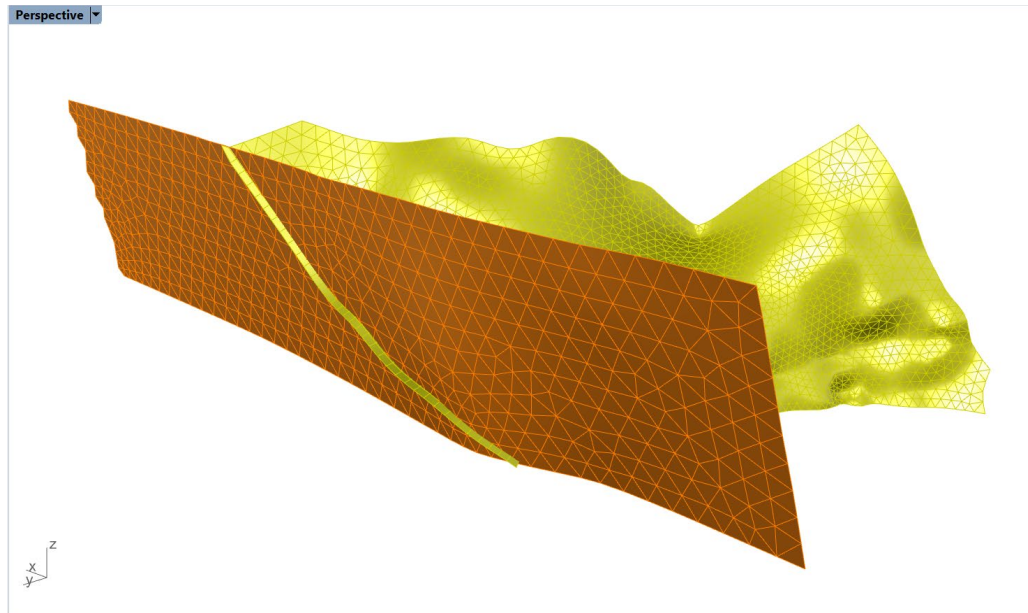

Figure 86: Extension of “Strat1” mesh along the part of the boundary closest to “Fault1”.
25. Turn on only “Strat1” and “Fault1” layers and extend the “Strat1” mesh only along the edge that visually connects to the “Fault1” mesh. Use **\_GExtend** → *ExtendSelectedBoundary: ExtendLength = 20, MeshType = Merged*. Additional segments of the boundary can be included in the selection by clicking on them and can be removed when holding **Ctrl** and clicking. Ensure that the extended portion fully intersects and is enclosed within the “Fault1” mesh (as in Figure 86).